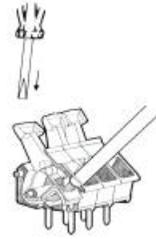

Figure 2-15: Inserting Load Cell Wires
8. Use a small screwdriver to apply force to the lever connector, as shown in Figure 2-15.